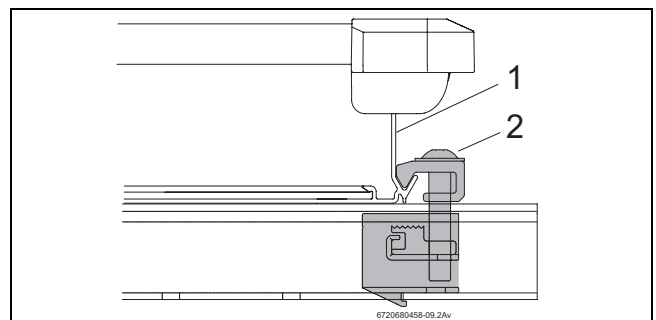

Fig. 43 Threaded single sided collector tensioner
- Carefully push the collector (Fig. 43, [1]) up against the single sided collector tensioner and level horizontally.
- Secure single sided collector tensioner with size 5 spanner. The hold-down retainer (Fig. 43, [2]) on the collector tensioner now grips the lower collector edge.